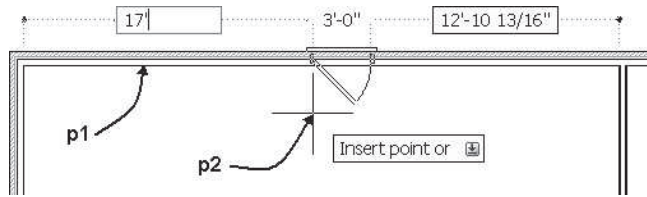
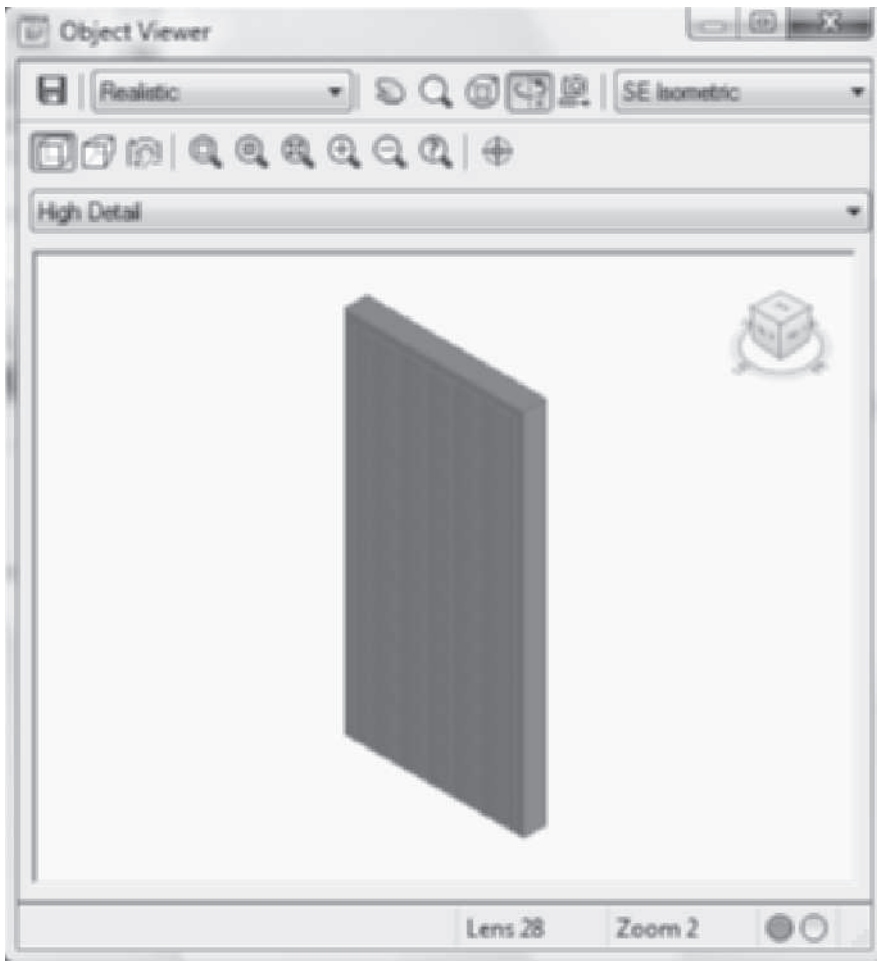

FIGURE 5.58 Editing dynamic dimension to place a window
FIGURE 5.63 Materials display in Object Viewer
13. Select the wall at p1, move the cursor down to set the door swing inside as shown in Figure 5.58, press TAB until the left dimension is highlighted as shown, and then type 17' [5000] ENTER in the field of the workspace. Press ESC to end the command.
15. Select the door at p2 as shown in Figure 5.58, right-click, and choose **Edit Style** from the General panel of the Door contextual tab.
19. Select the door placed near **p2** as shown in Figure 5.58, and choose **Edit Style** from the General panel of the Door contextual tab. Select the **Materials** tab of the **Door Style Properties-Hinged Single Exterior** dialog box. Verify that the material of the panel is **Doors & Windows.Wood Doors.Ash** from the **Material Definition** list.
24. Select the exterior door at **p2** as shown in Figure 5.58, right-click, and choose **Object Viewer** from the shortcut menu. Select **SE Isometric** from the View flyout menu. Edit the display representation to **High Detail**, and select **Realistic** visual style to view the door with materials applied as shown in Figure 5.63. Press ESC to close the Object Viewer.